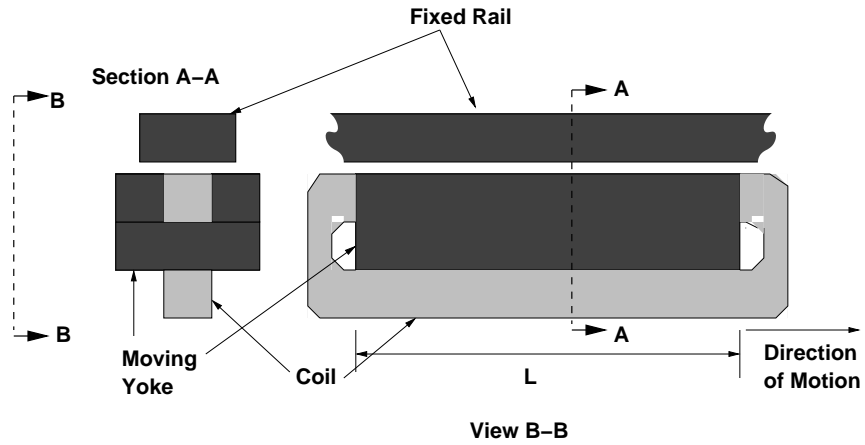
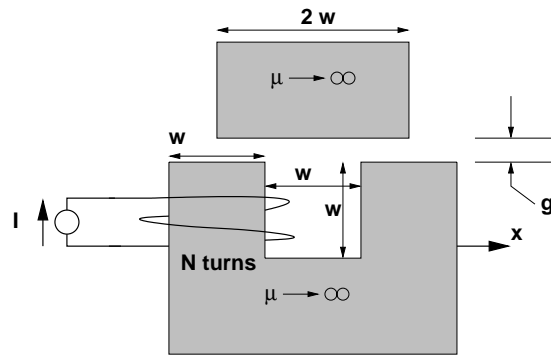

Figure 1: Suspension Magnet
Figure 2: Suspension Magnet Details
**Problem 2:** This problem relates to magnetic lifting systems such as are used in so-called “attractive levitation” schemes for high speed ground transport. See Figure 1. An example of a transportation system that uses such a scheme (Not quite this embodiment of it!) is the German built Transrapid system. The stationary element is the fixed ‘rail’. Mounted on and supporting the car is a ferromagnetic yoke and a current carrying coil. When the coil is excited it produces magnetic fields that attract the yoke to the rail. A section of the system is shown in a little more detail in Figure 2.